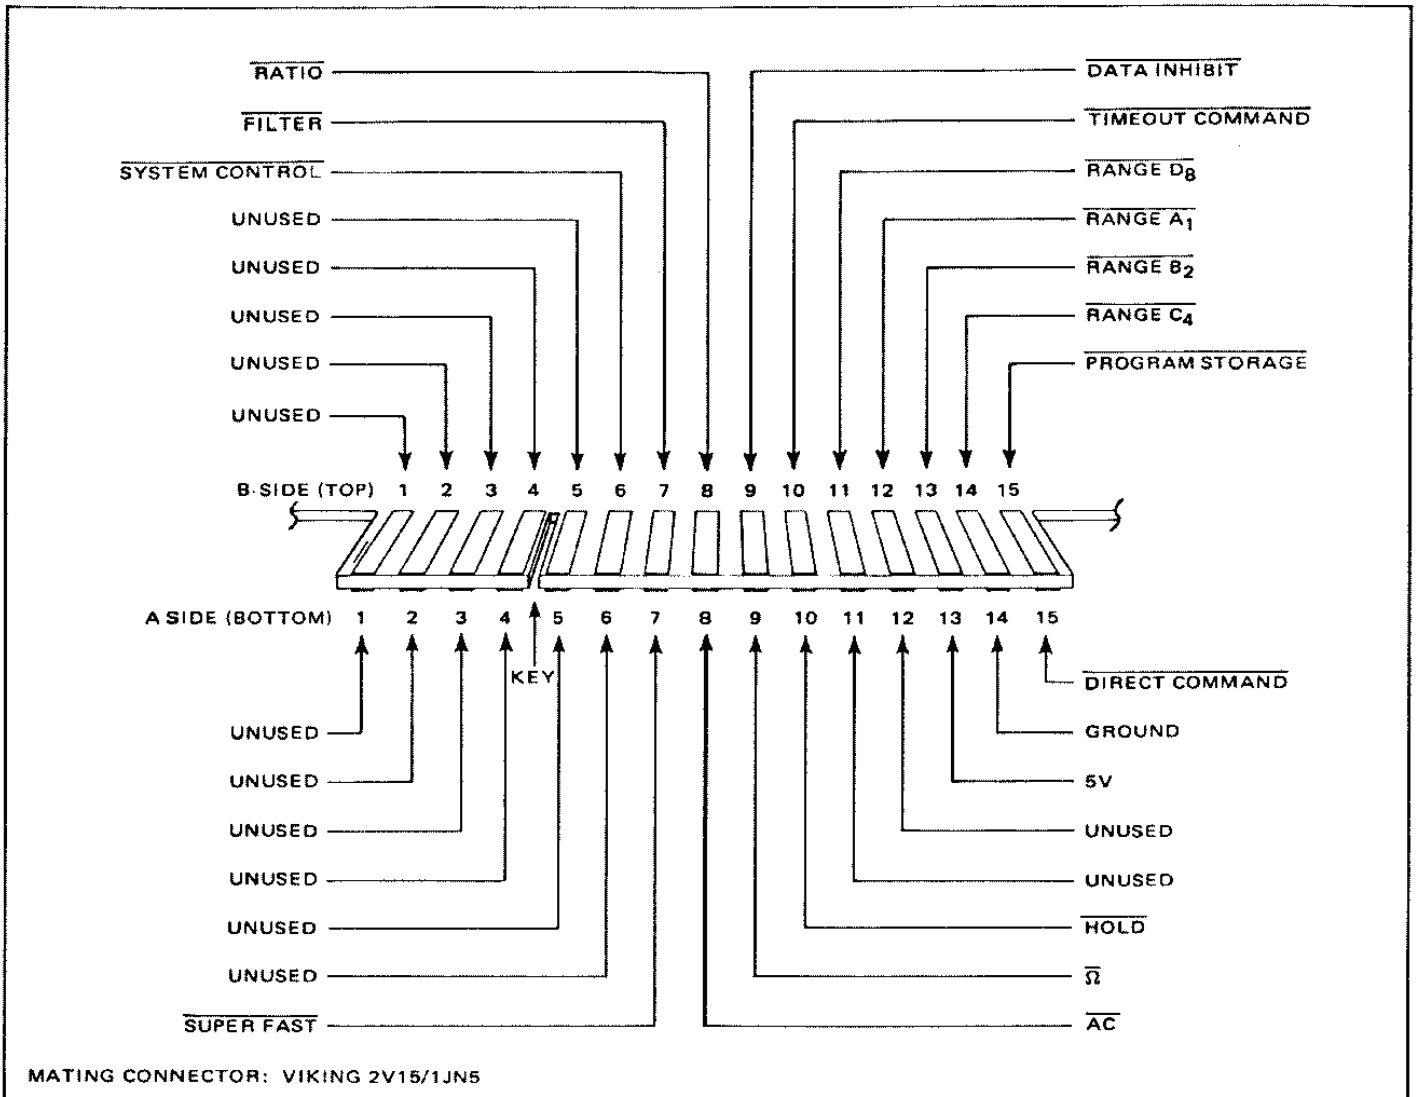

Figure 2.16 - Pin Assignments J202 PROGRAM INPUT
2.87 The instrument accepts commands made through PROGRAM INPUT connector J202 on the rear panel. Pin assignments of J202 are shown in figure 2.16. Commands